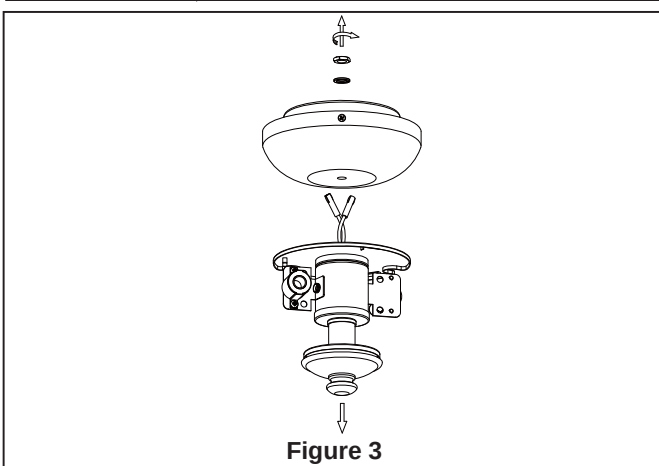

Figure 3
- ☐ 3. Disassemble the switch cup with light kit. (Figure 3)
- ☐ **3.** To make fan operational, install 23A/12V battery (included) in hand-held remote transmitter, with fan power off. Then follow the remote code setting process. (If not used for long periods of time, remove battery to prevent damage to transmitter). Store the remote away from excessive heat or humidity. (Figure 3)